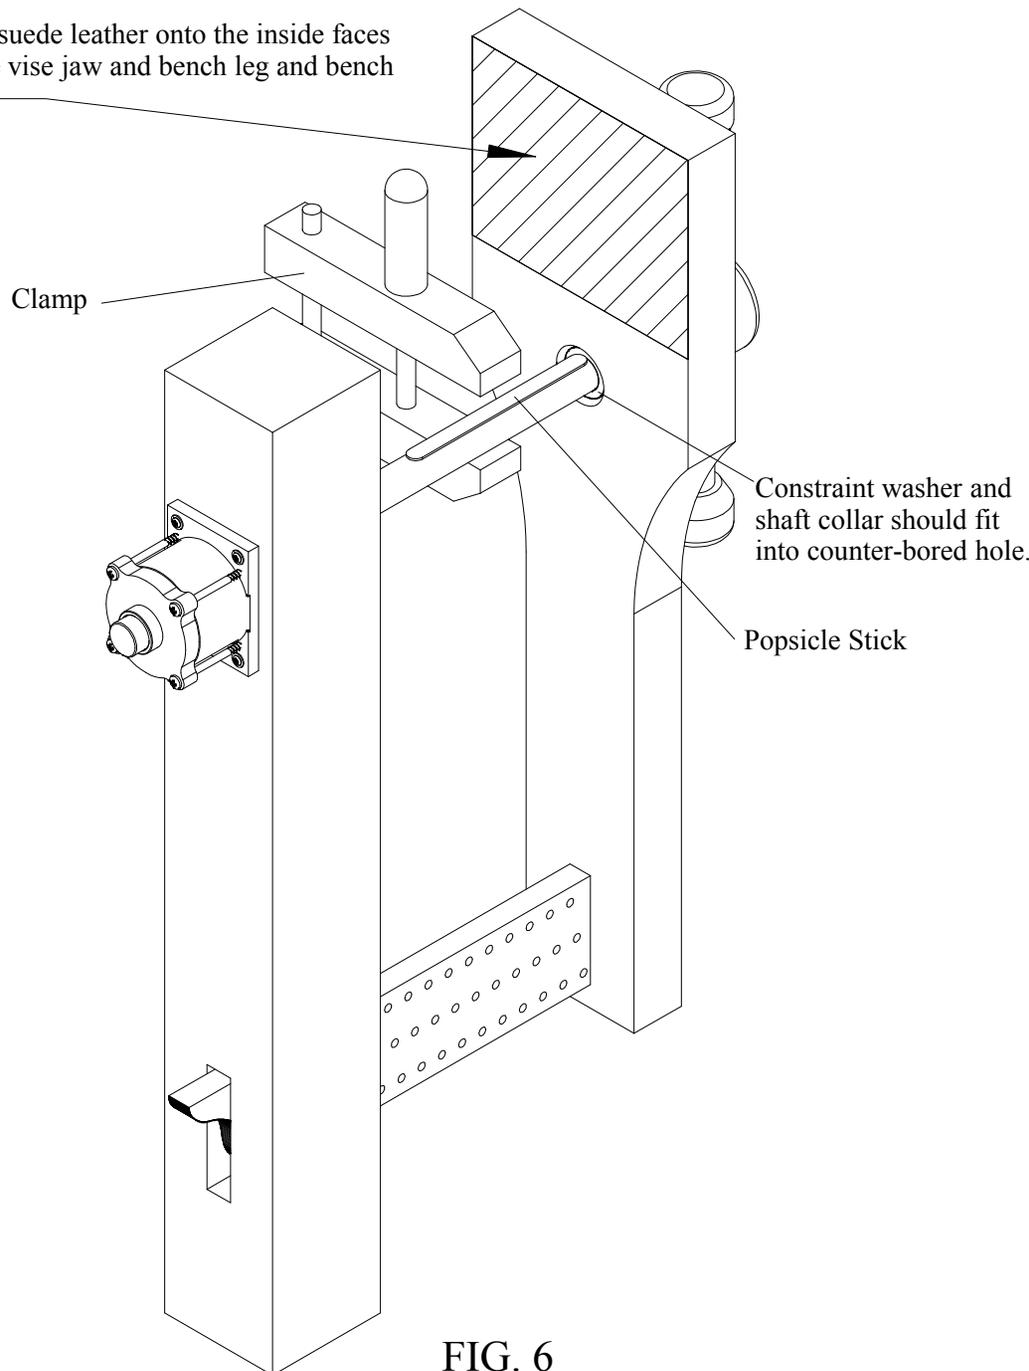

FIG. 6
Step 10: Open the jaw fully so you have access to the shaft collar as shown in Fig. 6. Clamp a Popsicle stick or other thin and narrow stick to the clamp shaft so that it holds the shaft collar and constraint washer tightly against the jaw. There should not be a gap between the jaw and the hub. Pull the quick release pin and remove the hub and jaw. Make sure the shaft collar is tight against the end of the Popsicle stick and firmly tighten the shaft collar using the included hex key wrench. Re-assemble everything and make sure the quick release pin can be installed and removed easily and there is not a large gap between the hub and jaw. Adjust the shaft collar for the proper fit. When you are satisfied the shaft collar is set correctly you can make a wooden gauge to allow you to quickly set the collar depth when you remove the jaw. You can also use a combination square as a depth gauge. If you remove the jaw frequently you can glue the constraint washer into the jaw with a dab of hot melt glue so you don't have to keep track of it.